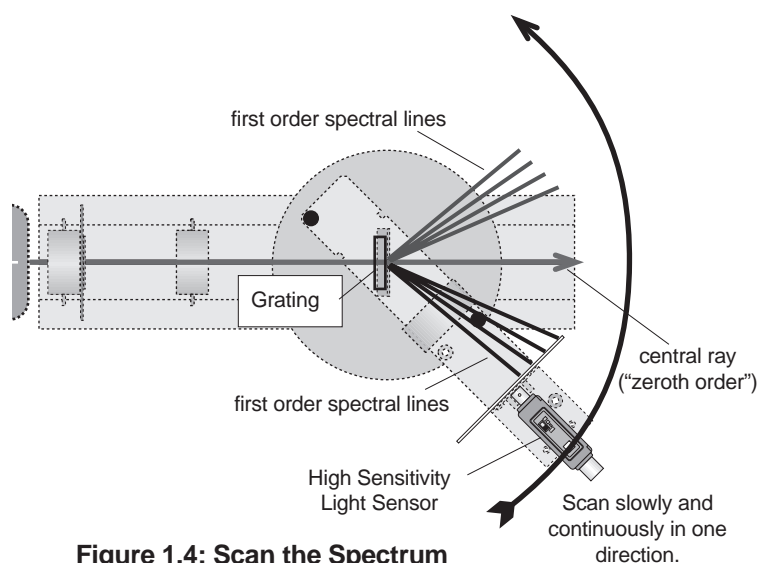

Figure 1.4: Scan the Spectrum
- Push on the threaded post under the light sensor to slowly and continuously scan the spectrum in one direction. Scan all the way through the first order spectral lines on one side of the central ray, through the central ray itself, and all the way through the first order spectral lines on the other side of the central ray (Fig. 1.4).